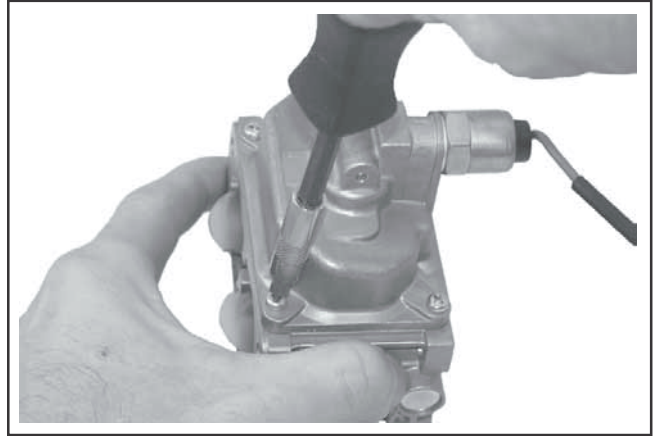

Figure 5-17. Installing Fuel Bowl.
9. When the proper float height is obtained, carefully reinstall the fuel bowl onto the carburetor, using new O-Rings. Secure with the four original screws. Torque the screws to **2.5 \pm 0.3 N·m (23 \pm 2.6 in. lb.)**. See Figure 5-17.